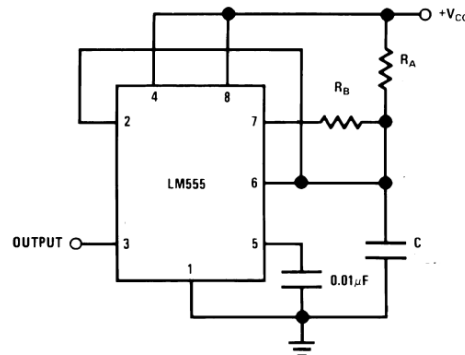

Figure 5: Example 555 Oscillator Circuit
- Figure 5 courtesy of TI <https://www.ti.com/lit/ds/symlink/lm555.pdf>